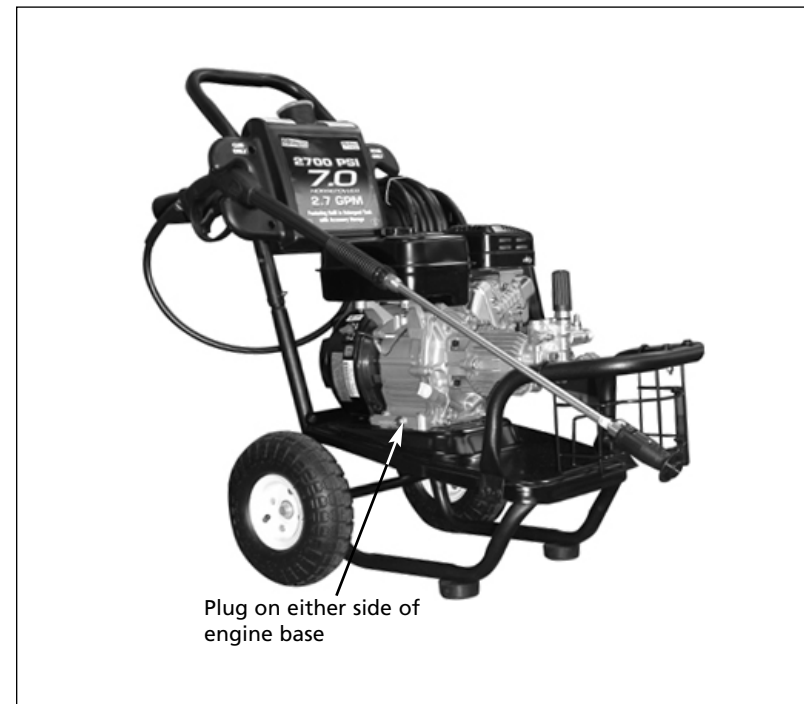

Figure 21 - Oil Drain Locations (also see Figure 22)
- Locate and remove the engine oil drain plug (see Figure 21).